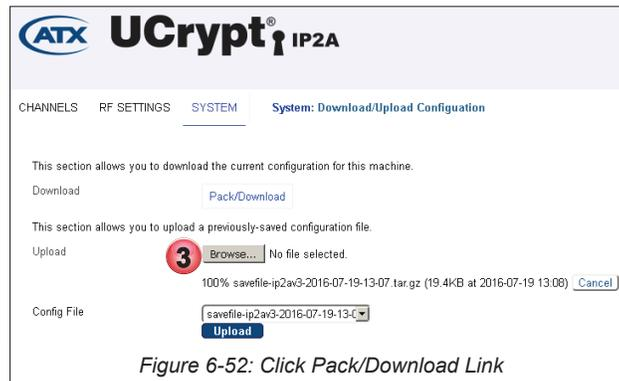

Figure 6-52: Click Pack/Download Link
- On the **Download/Upload** page that opens, click the **Browse** button, Figure 6-52.